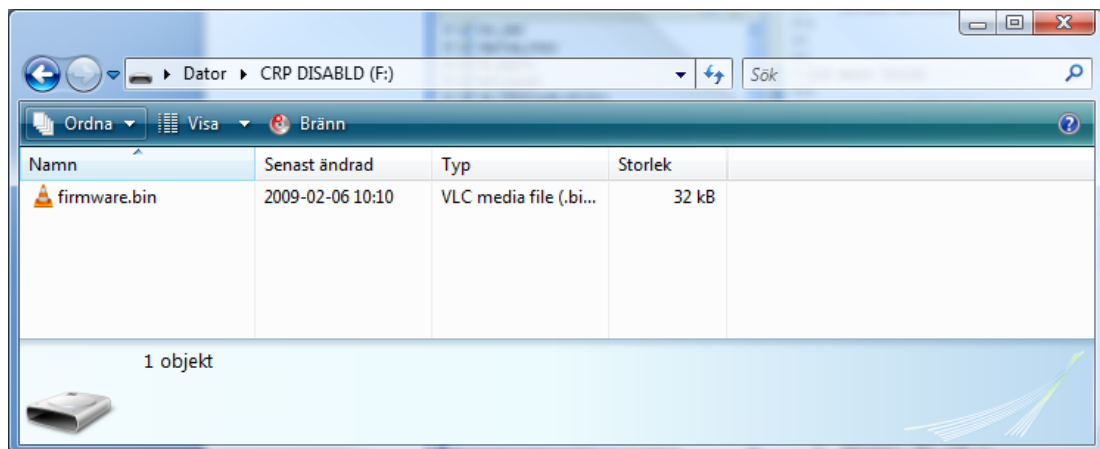

Figure 8 – Mass Storage Device
6. Press down the bootloader push-button (SW2) and then press and release the reset push-button (SW1) on the *LPC1343 QuickStart Board*. A storage device named CRP DISABLD will now appear on your computer, see *Figure 8*.